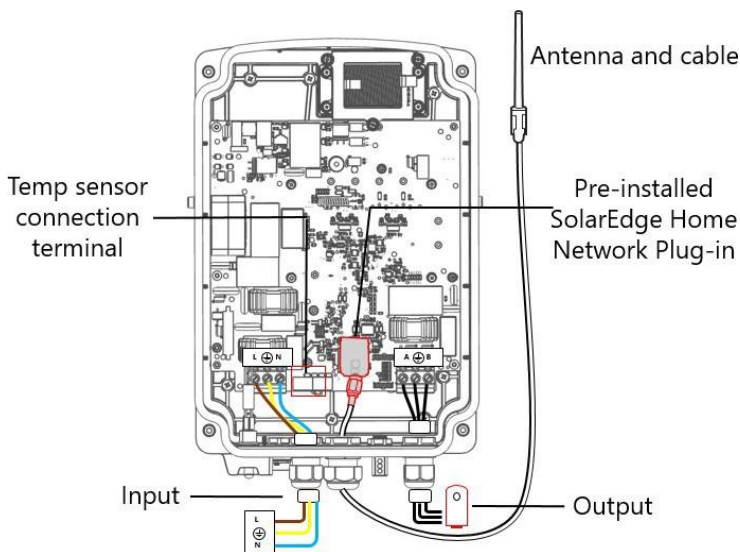

Figure 9: SolarEdge Home Hot Water Controller wire connections
Do not connect the device *output* (labeled A & B) to the grid, as this will damage the product and void the warranty. Connect the AC grid cable to the designated *input* only (see *Figure 9*).
3. Connect AC (to the grid; see *Figure 9*):
4. Connect to the immersion heater (see *Figure 9*):